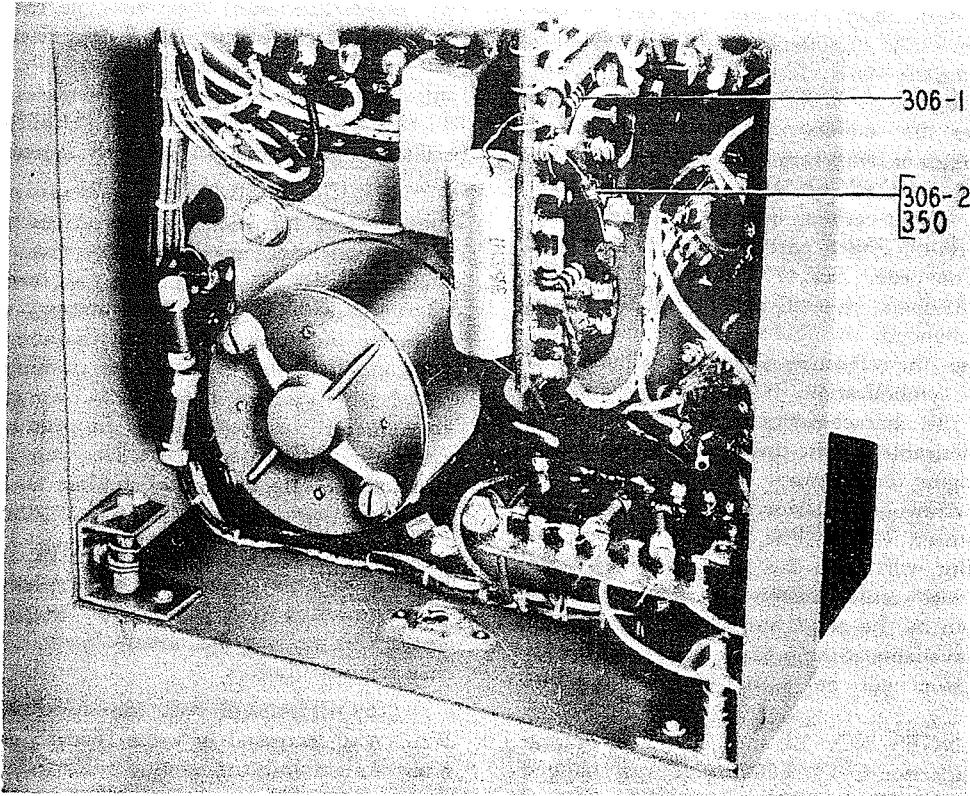
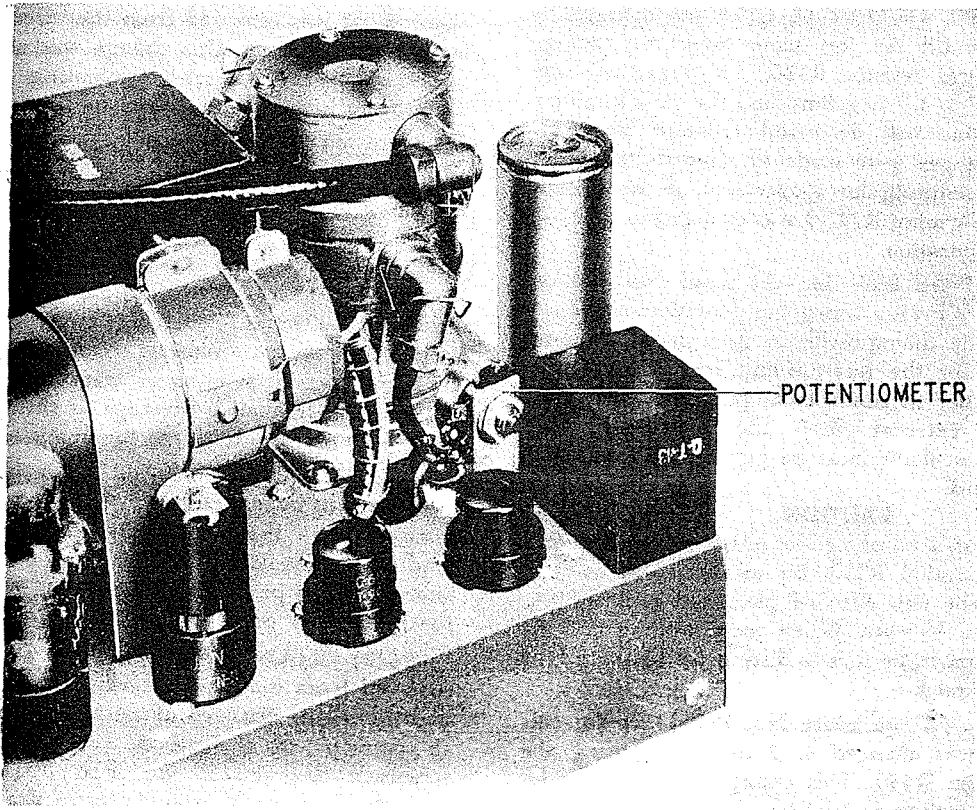

Figure 6-9. Indicator BC-929-(*)—Location of Resistors 306-1 and 350
Figure 6-10. Indicator BC-929-(*)—Potentiometer 307-4 Installed
(27) CHANGE NO. 71.—The reference symbol of this capacitor was changed as a schematic reference correction only. The capacitor has always been 600 volts, d.c., working.
(28) CHANGE NO. 72.—Addition of potentiometer 307-4 to the indicator horizontal-centering circuit was made to improve the focusing of the cathode-ray tube. This change was effective in production with serial No. 26 on order No. 431-DAY-44. Because of a slight mis-alignment of the gun and deflection plates in some tubes, the best focus occurs at one side of the indicator screen. When such a tube is focused along the center line, the trace is somewhat blurred. To correct this condition, resistors 306-1 and 306-2 (350) (see fig. 6-9) have been replaced with a 500,000-ohm potentiometer, 307-4. This potentiometer is mounted on a bracket on top of the chassis near the back (see fig. 6-10). Both potentiometer and bracket are obtainable in base spares. In original production, resistor 306-2 was 330,000 ohms. In attempting to correct the above condition, this resistor was changed to 150,000 ohms, reference number 350. This change was effective with serial No. 2495 on order No. 5759-WF-43. The addition of potentiometer
(b) After bracket and potentiometer have been mounted, remove resistors 306-1 and 306-2 (350) (see fig. 6-9), and make the following wiring changes (see figs. 6-11 and 6-12):